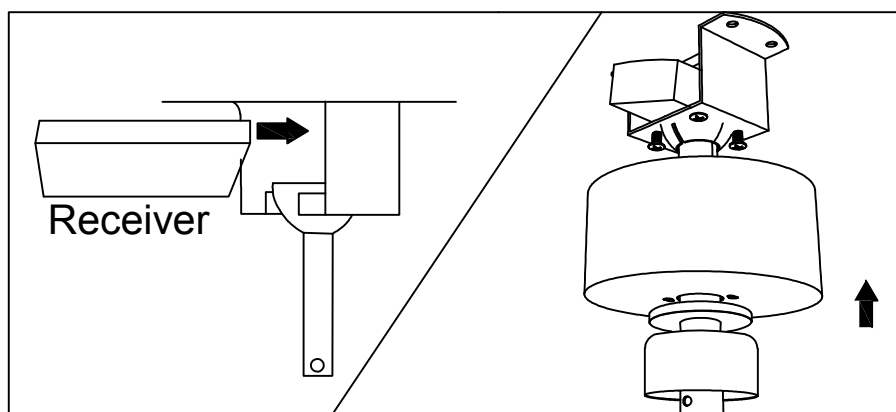

Figure 7.1
- Position the receiver into the mounting bracket as shown direction. When installing the canopy, ensure the antenna is not pressed by the canopy. Ensure to connect all ground wires accordingly. (Figure 7.1)